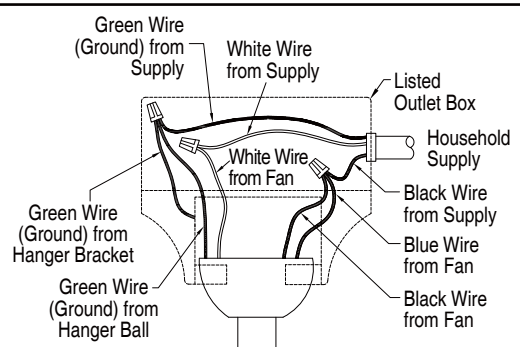

Figure 3
- ☐ 3. After splicing and making the wire connections, the wires should be spread apart and turned upward with the grounded conductor and the equipment-grounding conductor on one side of the outlet box and the ungrounded conductor on the other side of the outlet box. (Figure 3)